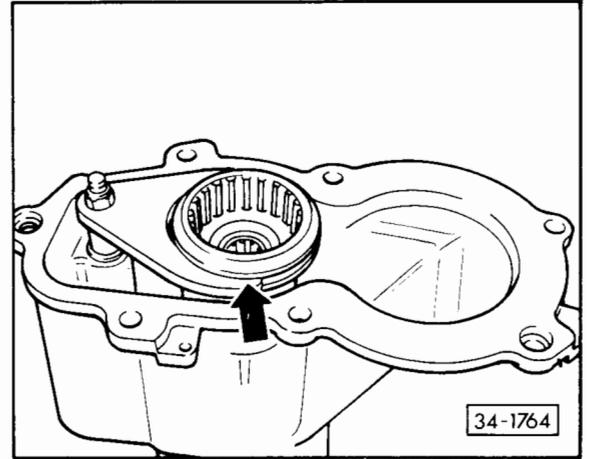

Fig. 7 Installation position of shift sleeve
- 21 Shift sleeve (2)**
- Installation position – Fig. 7
- 22 Spring pin (2)**
- 23 Shift rod (2)**
- 24 Selector fork (2)**
- 25 Hex nut 25 Nm (2)**
(1) Only on permanent 4WD
(2) Only on selectable 4WD